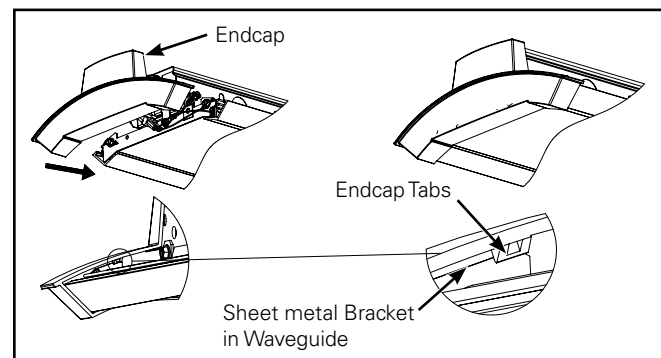

Figure 29.
12. Remove endcaps from parts box, install Endcap to fixture. Tuck wire harnesses and safety cable while installing. Endcap tabs must fully engage in the metal bracket. (Figure 29.)